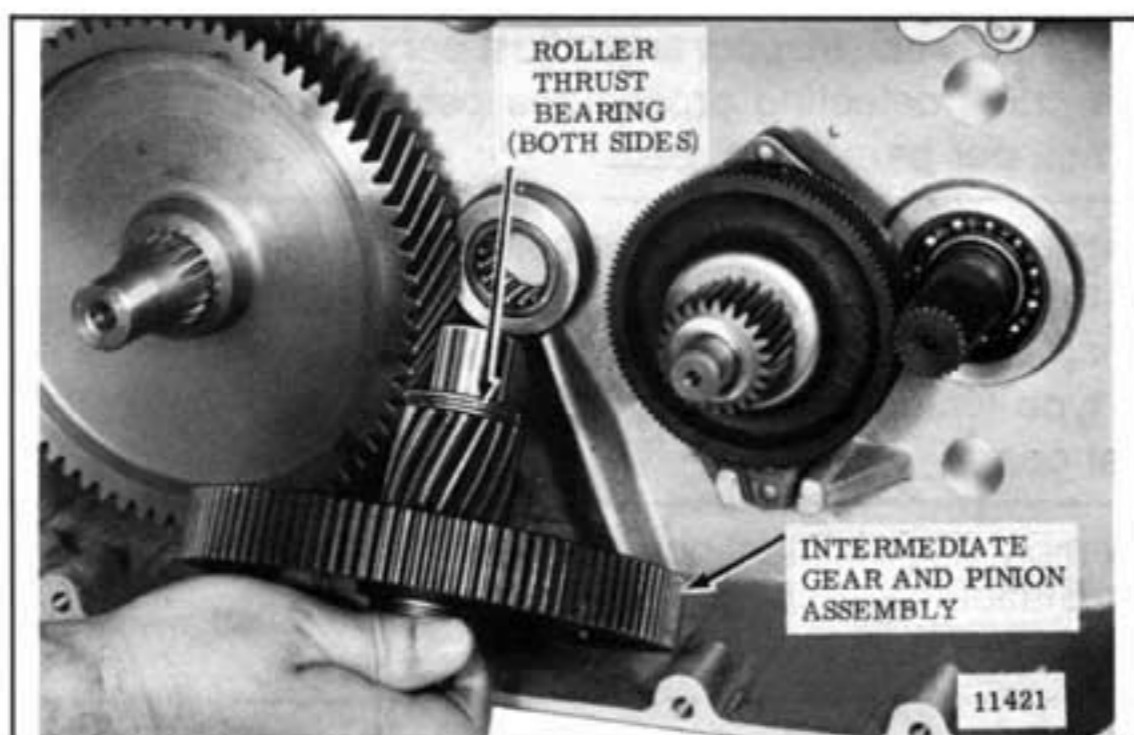
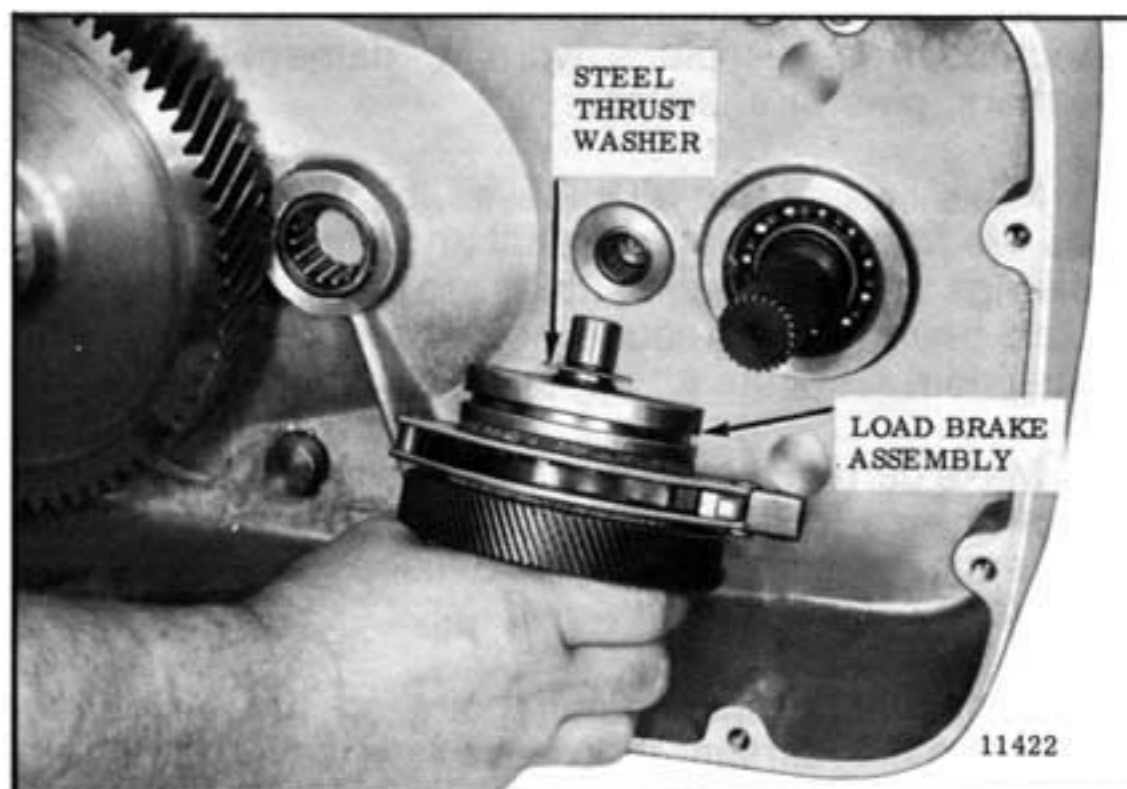

Figure 5-4. Removing Intermediate Gear and Pinion Assembly.
Figure 5-5. Removed Load Brake Assembly.
(1) Pass other end of rope thru bottom opening of hoist, between floating limit rod and motor, and attach rope to cast dead end anchor fitting. A slot is located at top of fitting to accept cable. Reinstall bolt and lockwasher in end of anchor fitting to lock rope compression fitting in place.
(2) Grasp loop, formed after installing end anchor, and place bottom block sheave in loop. Lower sheave into bottom block and insert sheave pin. Replace key plates and bolts holding sheave pin in place.
h. Install gearing and load brake assembly in gearcase in reverse order of disassembly. Be certain roller thrust bearings are installed at both ends of intermediate gear shaft as shown in Figure 5-4 and that thrust washers are properly installed at both ends of load brake shaft as noted below.
(1) A steel thrust washer with 5/8" I.D. must be installed on the brake flange end (end opposite pinion) of load brake as shown in Figure 5-5.
(2) A bronze thrust washer with a lug on one side goes on pinion end of load brake shaft and it must be installed so that its lug engages the special slot located on the spot face surrounding the load brake bearing bore inside gearcase cover. Use heavy grease to hold it in place on cover as cover is installed.
- To inspect gearing, pull out intermediate gear and pinion assembly and roller thrust bearings (Figure 5-4), and load brake assembly (Figure 5-5). Do not remove drum gear unless visual inspection indicates replacement is necessary.